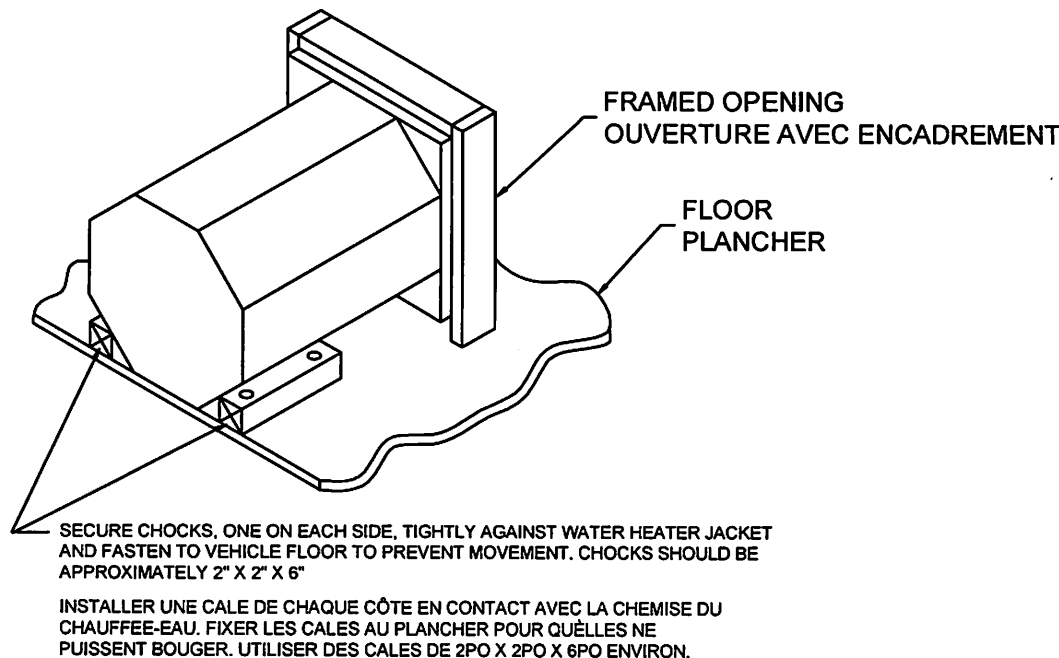

Figure 2
- H. Install chocks, one on each side of water heater, as illustrated in Figure 2.
- C. Install chocks, one on each side of water heater, as illustrated in Figure 2.